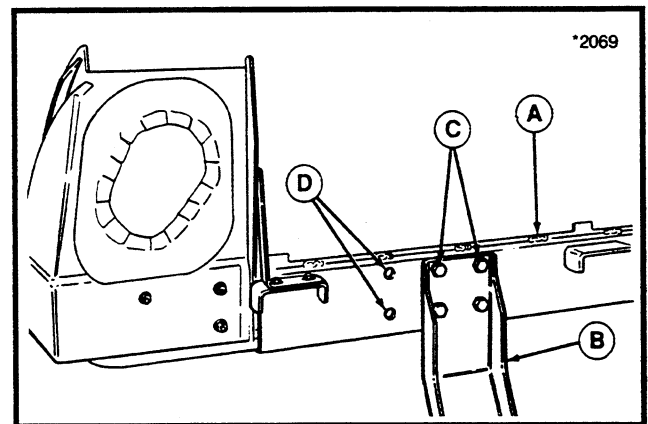

Figure 4.
5. Install horizontal bag support (A, figure 4) to upright (B) with four 3/8-16 x 7/8 capscrews (C) and flange lock-nuts. Install capscrews from the front and tighten when upright and support are square. Note that the open set of holes (D) is toward the discharge side of mower.